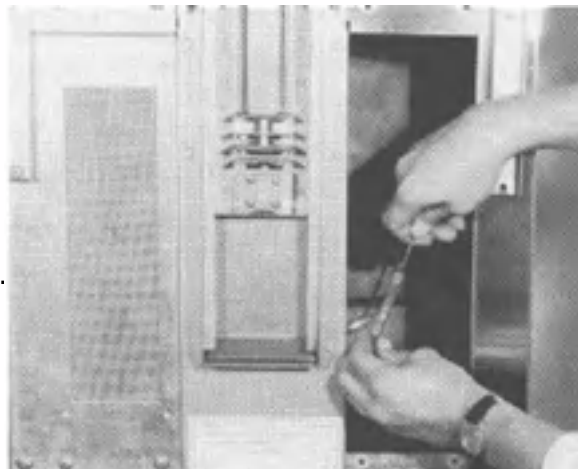

FIG. 24
6. Disconnect the two (2) vent solenoid wires from harness wires at insulated terminals (See Figure 24).